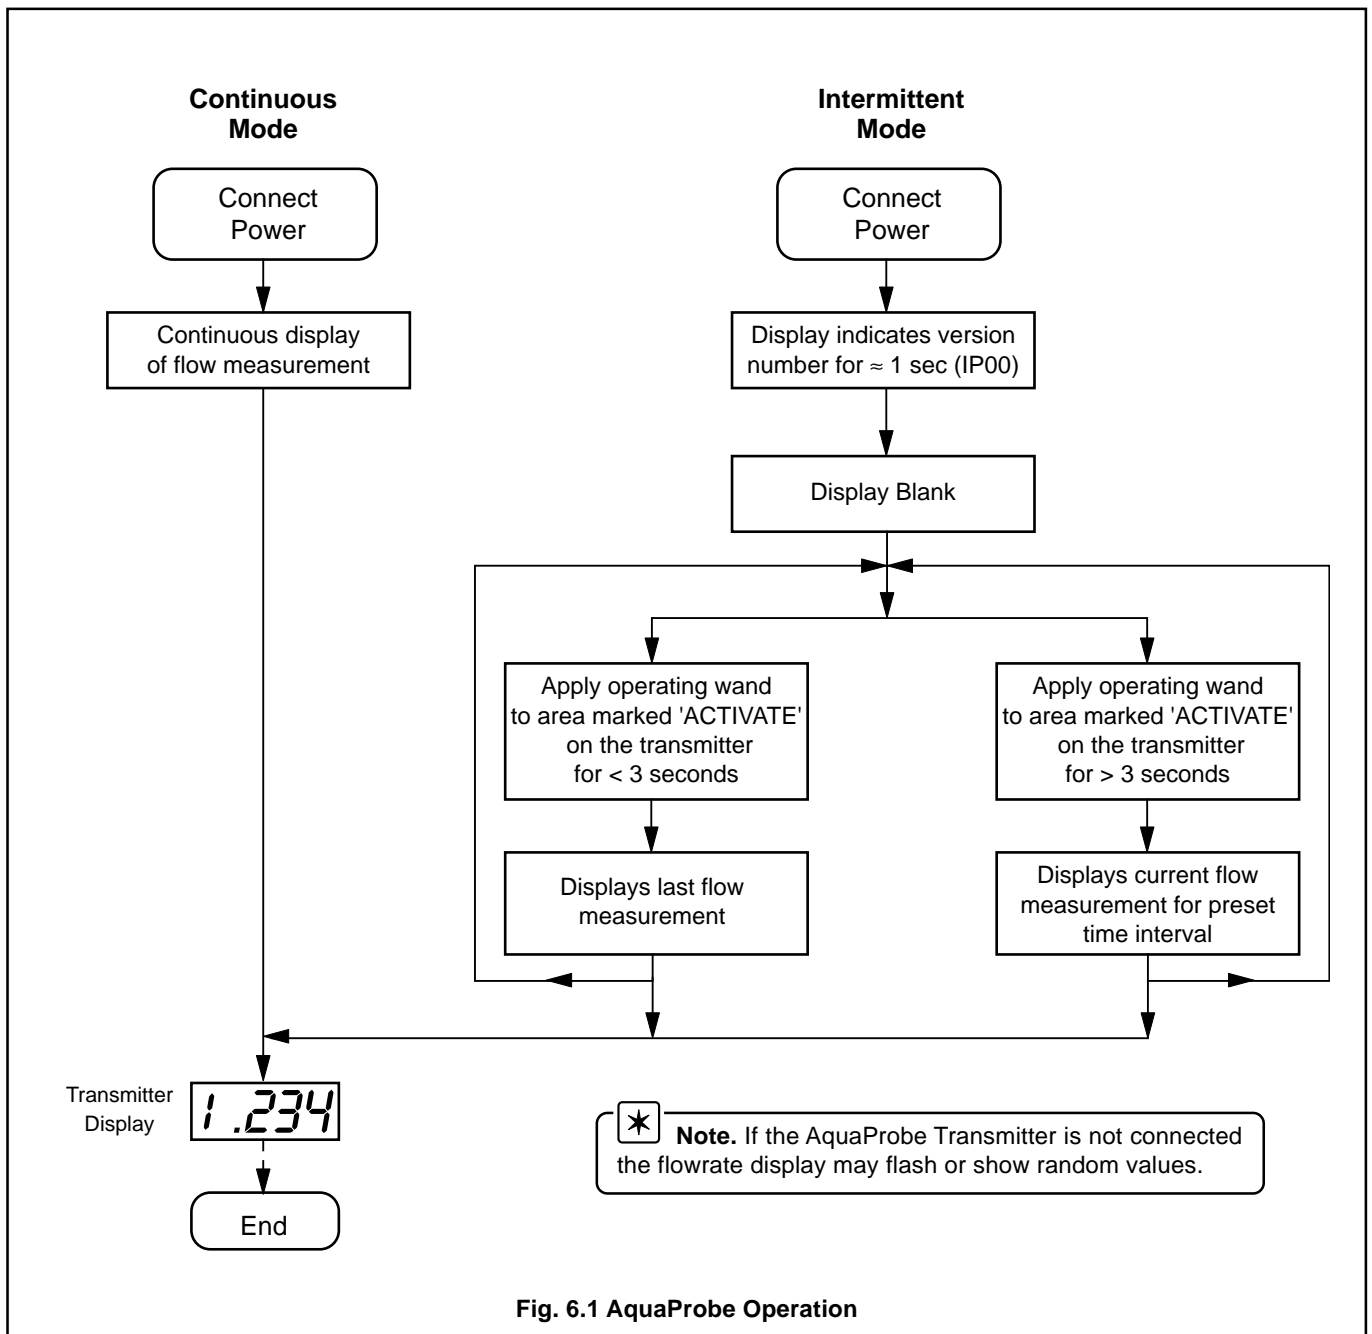

Fig. 6.1 AquaProbe Operation
6.1 Start-up and Operation – Fig. 6.1
Ensure connections have been made correctly, connect power and follow the sequence of operation detailed in Fig. 6.1. To change between continuous and intermittent mode refer to the AquaProbe Transmitter Configuration Manual.